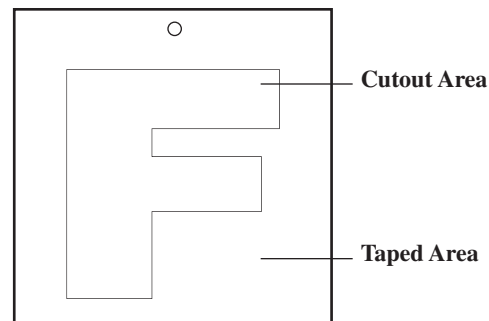

Figure 1.
- Draw a simple design (such as your initials or name) on the masking tape with a pencil. Designs may be drawn on both sides of the piece of galvanized iron if desired. The design that is drawn will become the copper-colored part of the ornament. See Figure 1.
- Use a scalpel to cut along the pencil marks. Remove the masking tape *inside* the drawing only so that the design is uncovered. See Figure 1.